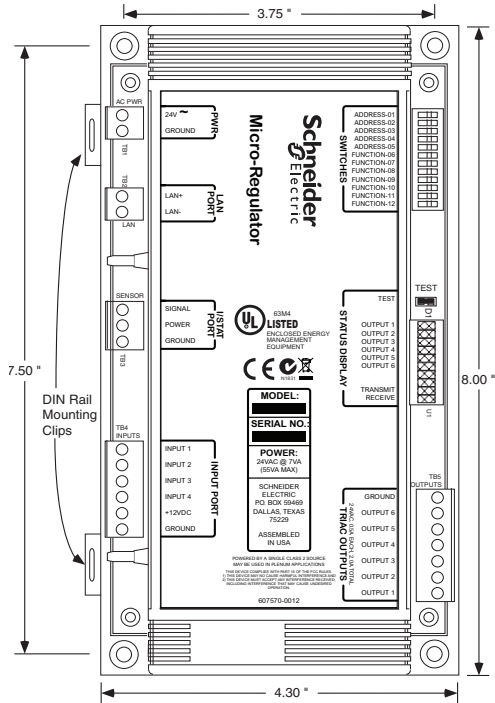

Figure 1. MR-VAV-X1 (Covered)
1. Check the mounting location for the MR-VAV-X1. The available area must measure at least 4.3" x 8" (11 x 20 cm) and should be in a moisture free container away from any large electrical devices. The screw holes are 3.75" x 7.5" (9.5 x 19.1 cm) as shown in Figure 1, and will require phillips or slotted pan head screws.